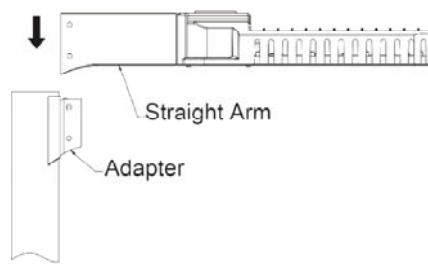

FIG.3
- Insert the fixture into the adapter (see **FIG.3**).